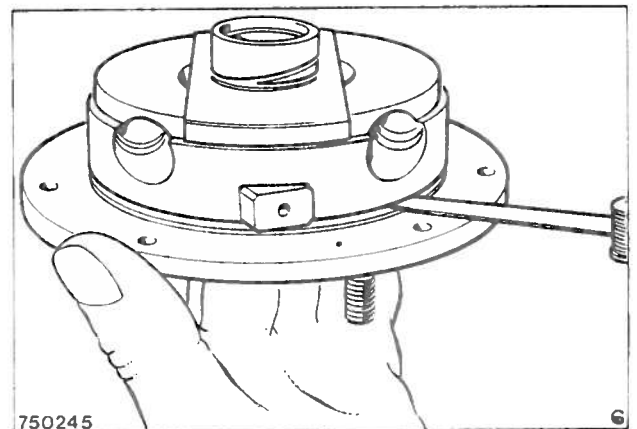

Fig. 26 Checking the end-float of the auto-advance unit
2. Lubricate the driven flange and position the flange on the weights. Lubricate the slipper blocks and fit onto the driving flange, fit the driven hub and weights onto the driving flange, aligning the slipper blocks and mating marks. Fit the shims, washer and circlip. Check between the driving flange and weight face using either a feeler gauge or the Auto-advance end float adaptor and dial gauge for the correct end float. Adjustment is made by adding or removing shims as necessary, Fig. 26.